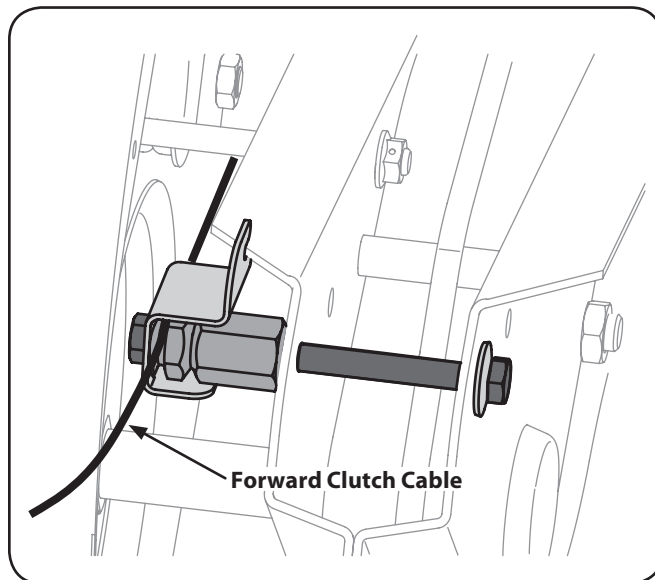

Figure 1-1
1. Identify the forward clutch cable. See Figure 1-1.